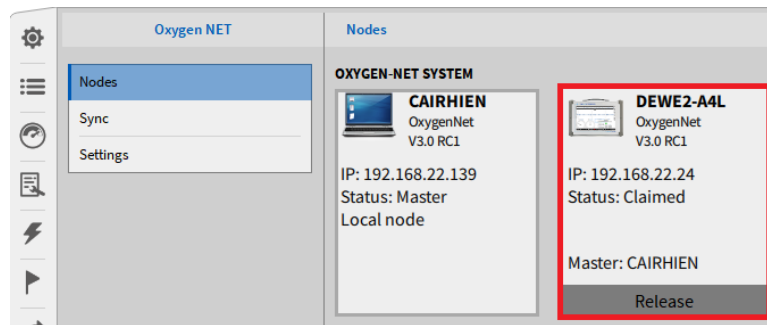

Fig. 15.16: List of claimed devices
- After claiming a device by the Master unit, it is listed in the *OXYGEN-NET System* section (see Fig. 15.16) of the OXYGEN-NET menu *Nodes* and may be released from the OXYGEN-NET system again by clicking on the *Release* button